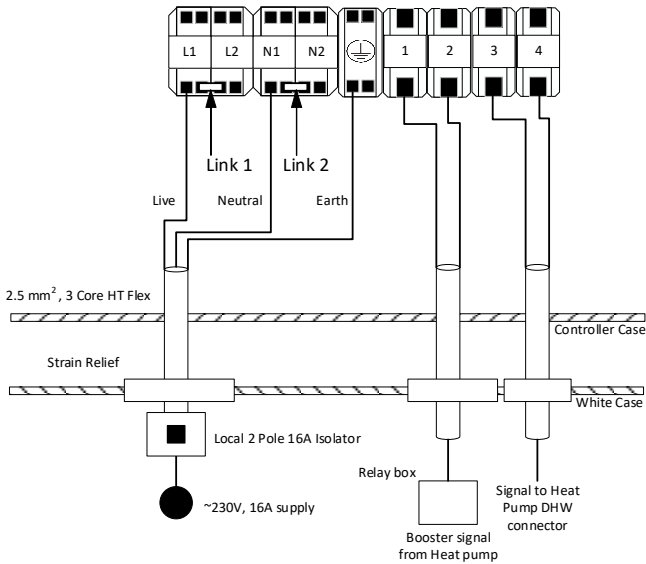

Figure 13.2: Wiring Option 2 – HW +iLTHP Daikin Low Temperature Heat Pump
- Using the cable assembly provided (C2293), plug the connector end in the Daikin Indoor unit “*EHBH04/8D6V*” controller PCB plug terminal X13A (please refer to Heat pump manual). Then run the cable out of the Daikin indoor unit and into the relay box (C2291) provided into “TRIGGER INPUT AC” terminals (please refer to relay box instruction sheet). Then wire the 2 core PVC insulated cable provided (C2295) from the relay box terminals “NO1” & “C1” to the Heat Battery, into the control box housing through the hole available. Secure the cables in Terminal T1 & T2 independently (Figure 13.2). Please note that the polarity of the wires is not important in this wiring setup. Please ensure to use the provided relay backbox (C2292) & 2 x Cable grommets (C2296) when running the wires into the relay box.
Using the cable assembly provided (C2294), place the connector end in the Daikin indoor unit controller “*EHBH04/8D6V*” PCB connector “X9A” (please refer to Heat Pump manual) , then run the wire into the Heat Battery via the Heat Battery case cabling grommets and then into the control box housing through the hole available. Secure the cables in Terminals T3 & T4 independently (Figure 13.2).